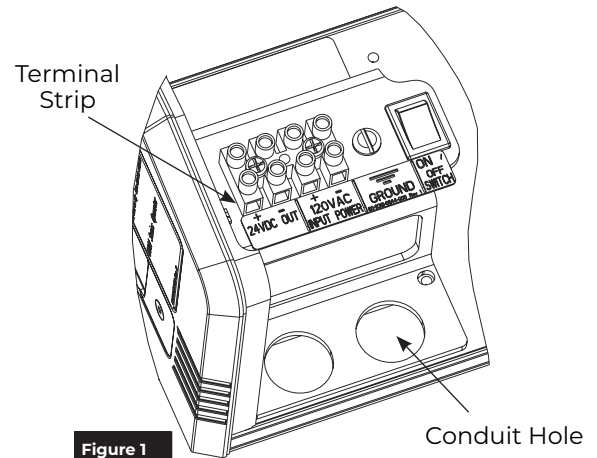
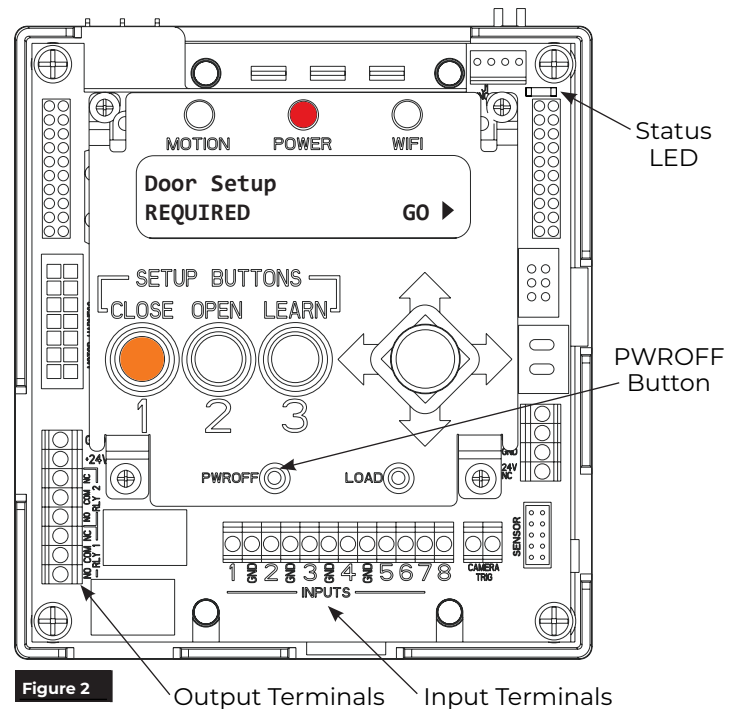
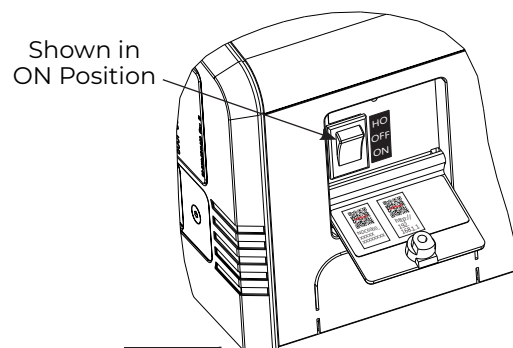

Figure 1
Figure 2
Figure 3
2. Connect 120VAC power to the terminal strip on top of the Conduit Assembly (Figure 1):
- NOTE:** The Union Assembly may have to be removed for ease of access. Remove AND SAVE the (4) 8-32 x 5/16" Philips pan head screws.
3. Wire any additional output devices, such as electric strikes, mag locks, exit devices, door open position output, etc., to the green terminals on top of control board. (Figure 2)
4. If applicable, reinstall the Union Assembly using the (4) 8-32x5/16" screws previously removed.
6. Confirm the ON/OFF/HO switch, located in the end cap, is in the ON position before proceeding to Setup (Figure 3).